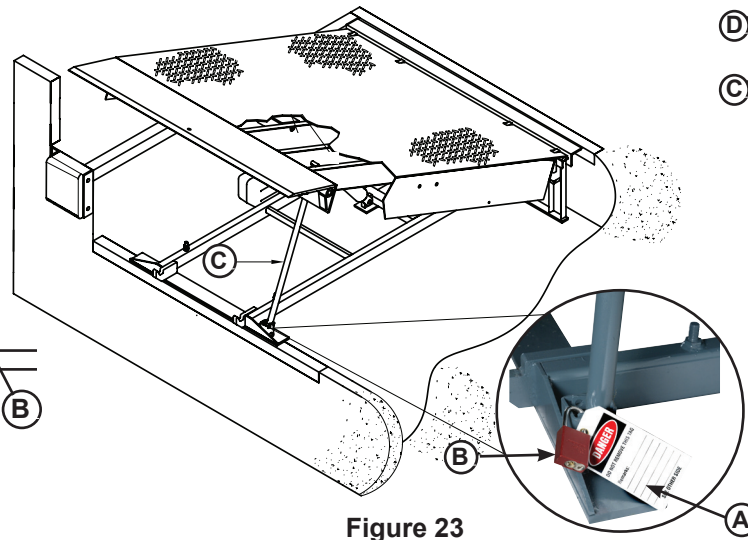

Figure 23
Whenever maintenance is to be performed under the dock leveler platform, support the platform with maintenance prop (C). Position the maintenance prop behind front header plate (D) while staying clear of the lip. The lip will fold down after the platform has rested on the maintenance prop. Lock the maintenance prop in the service (upright) position using an OSHA approved lockout device\* (B) and tag out device\* (A). See Figures 23 and 24.